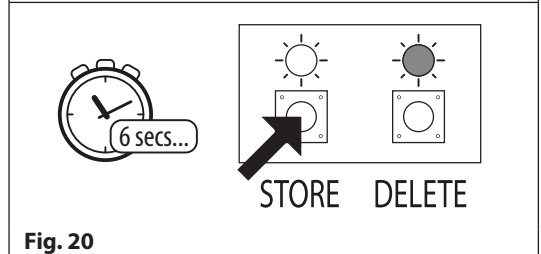

Fig. 20
1. Press and hold down the store button for approximately 6 seconds until the green store LED switches **OFF** and the red delete LED stays **ON**, see **Fig.20**;